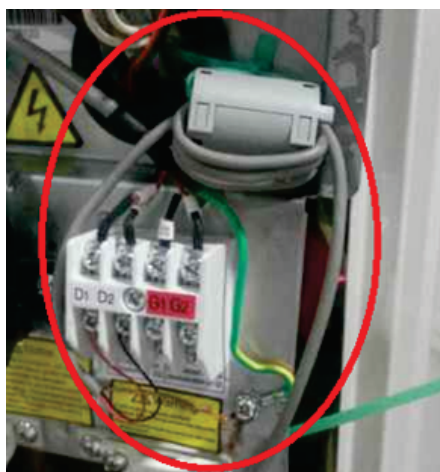

Fig.4.23
- ③ Specification of circuit breaker is based on the working condition where ambient temperature of circuit breaker is 40°C. If working condition changes, please adjust the specification according to national standard.
- ④ The communication wire between the indoor unit and the outdoor unit should wind with a magnetic ring (packed in the packing accessories). The communication wire should wind the magnetic ring for 4 circles, and the use the tie line to fix the magnetic ring at the meta sheet. Please refer to the diagrammatic sketch as Fig.4.23(Only for the models whose packing materials include magnetic ring):